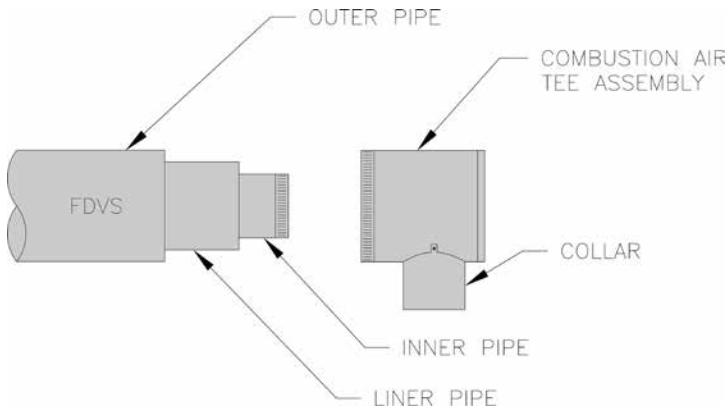

Figure 19: Combustion Air Tee Assembly Installation
1. Assemble the vent hood tee body to the vent hood outer pipe, and, rotate the tee, so air intake inlet collar is in the desired position. See Figure 19.